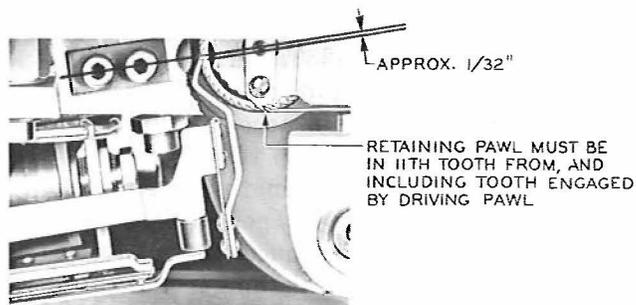

Fig. 16 - Positioning of Driving and Retaining Pawls
Unsolder the leads to the magnet terminals and tag them so that they can be connected to the corresponding terminals of the new magnet. Remove the two mounting screws and the locking screw, using the proper size Allen wrenches. Loosen the overthrow stop mounting screws using the proper size Allen wrench. Slide the stop away from the driving pawl. Remove the drum advance mechanism from the cradle taking care not to damage the drum. Position the new drum advance mechanism on the cradle so that the relation between the driving pawl and the ratchet wheel is as covered in Section 034-306-701. Tighten the two mounting screws securely using the proper size Allen wrench and insert the locking screw loosely in the positioning bushing. Solder the leads to the proper magnet terminals. Set the backstop so that the retaining pawl just drops in the succeeding tooth as the armature is manually operated and released slowly. Locate the drum advance mechanism by adjusting the positioning bushing using the 245 wrench so that after the locking screw is tightened securely in the bushing, the end of the driving pawl is in the tooth shown in Fig. 16 and the holes in the drum and pin guide are lined up in accordance with Section 034-306-701. Adjust the overthrow stop and check that all requirements specified for the drum advance mechanism are met.
**3.22 Retaining Pawl:** Remove the retaining pawl mounting screw and washer using the proper size Allen wrench. Remove the retaining pawl. Substitute the new retaining pawl. Shift the position of the pawl so that it is in the eleventh tooth from the driving pawl. Check this position as follows. Loosen the overthrow stop mounting screws using the proper size Allen wrench. Then slide the stop away from the driving pawl so that the end of the drum is visible through the hole adjacent to the overthrow stop. Place a mark on the side of the drum adjacent to the tooth engaged by the retaining pawl. Operate the armature manually ten times and note that the marked tooth is then engaged by the driving pawl as shown in Fig. 16. Adjust the overthrow stop as covered in Section 034-306-701.